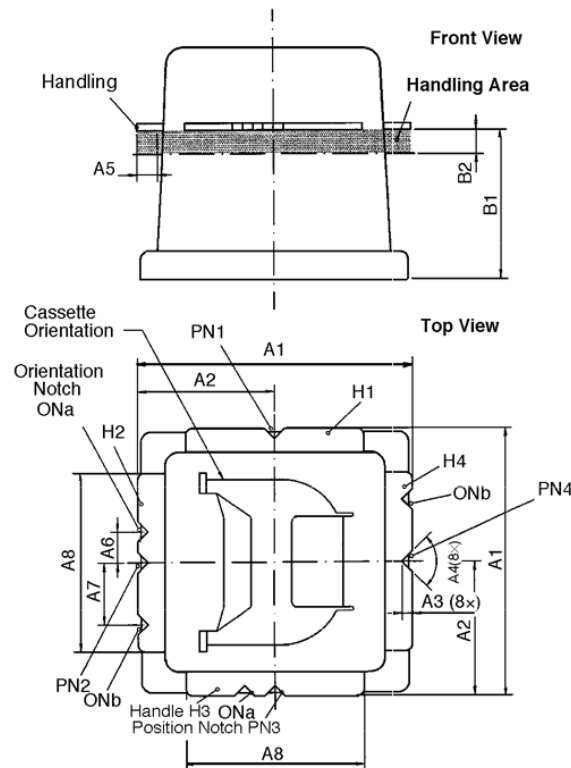

Figure 1
5.1.6 *orientation notch* — notch located at the pod handles to allow sensing the orientation of the pod. See Figure 1.
5.1.8 *position notch* — notch located at the center lines of the pod handles to allow positioning. See Figure 1 (PN1–PN4).
6.1 Handling Dimensions: the handling dimensions for 150 and 200 mm pods shall be per Table 1 (see Figure 1 for dimensional locations).